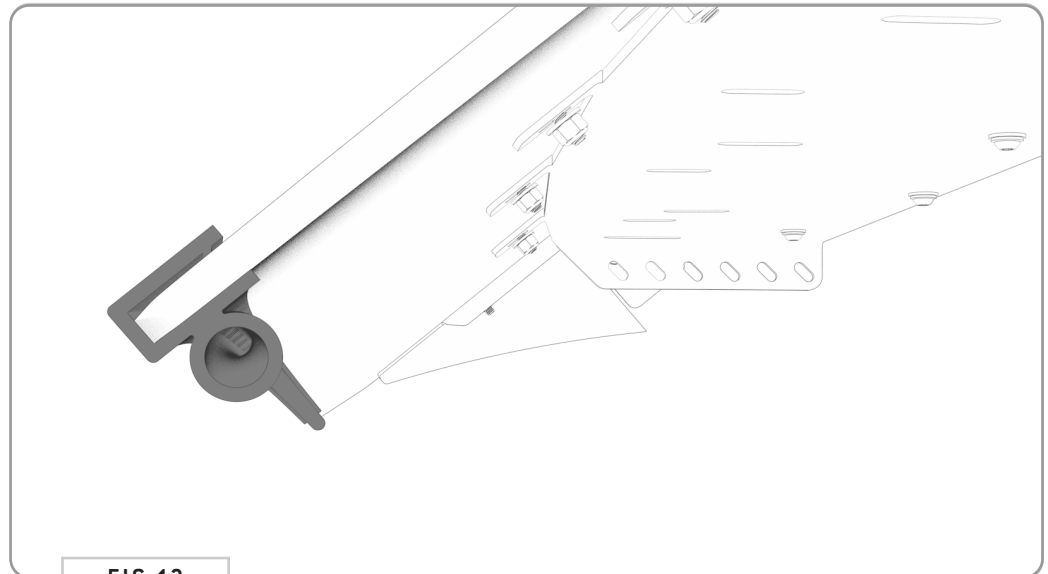

FIG 13
4.4 Fairing Gasket Trim: Attach the **Fairing Gasket Trim** to the **Front Fairing** in the orientation shown in **FIG 13**. Make sure the “bulbed” side is facing inward.